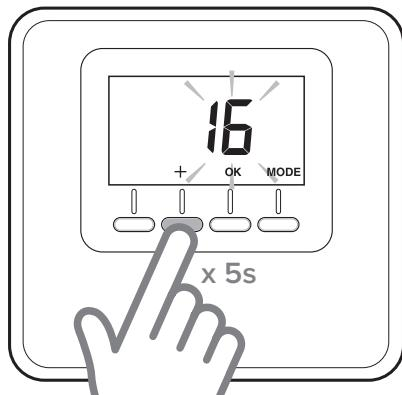

Fig. 14
- Hold the “+” key on the thermostat down for 5 seconds (Fig. 14).